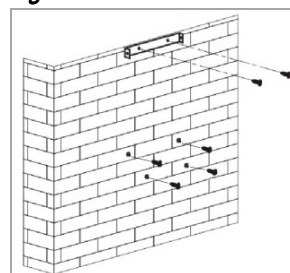

Fig. 2
- Before attaching the hood (*Fig. 2*):